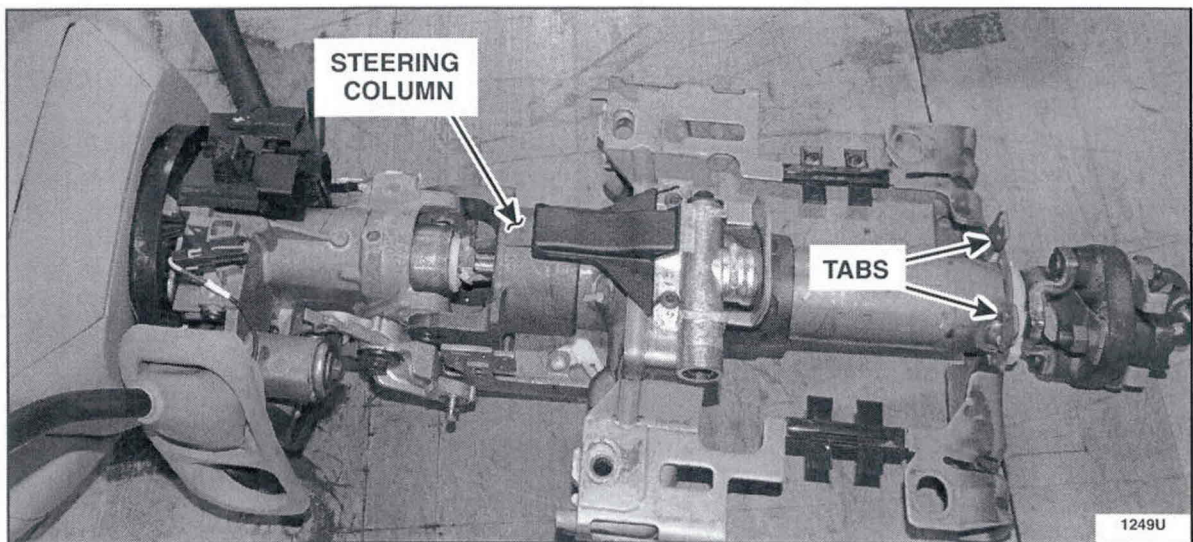

FIGURE 10
4. Locate the two tabs located at the forward end and top of the steering column. See Figure 10.